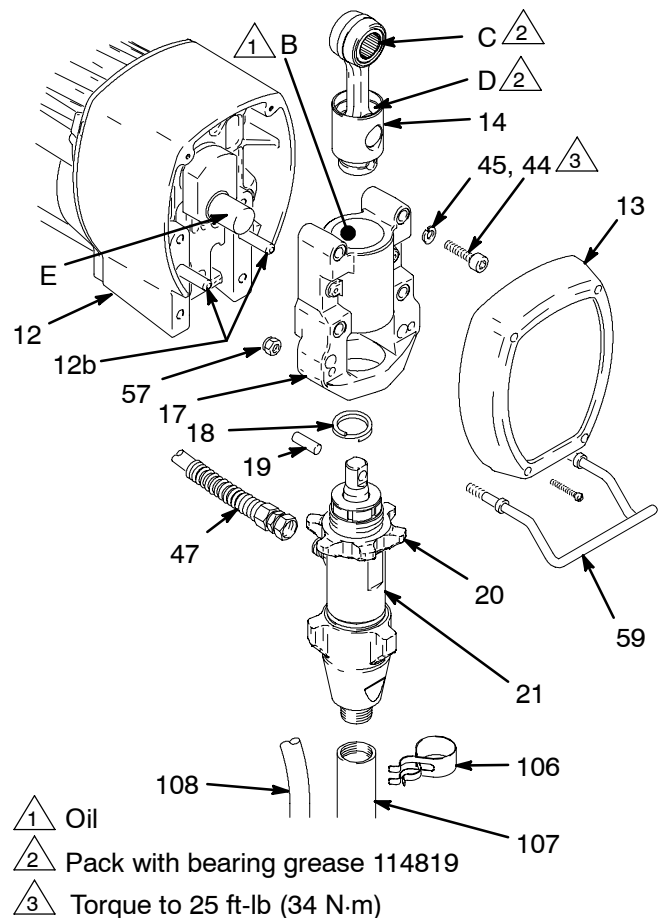

Fig. 3 8697A
- Stop sprayer at bottom of stroke to get crank (E) in lowest position. To lower crank manually, remove spark plug and carefully rotate crank by pulling starter rope.
- Fig. 3. Remove front cover (13). Unclip drain hose (108) from pump. Unscrew pump suction tube (107) from pump. Disconnect pump hose (47).
- Push up retaining spring (18). Push pin (19) out rear.
- Fig. 3. Install remaining parts.